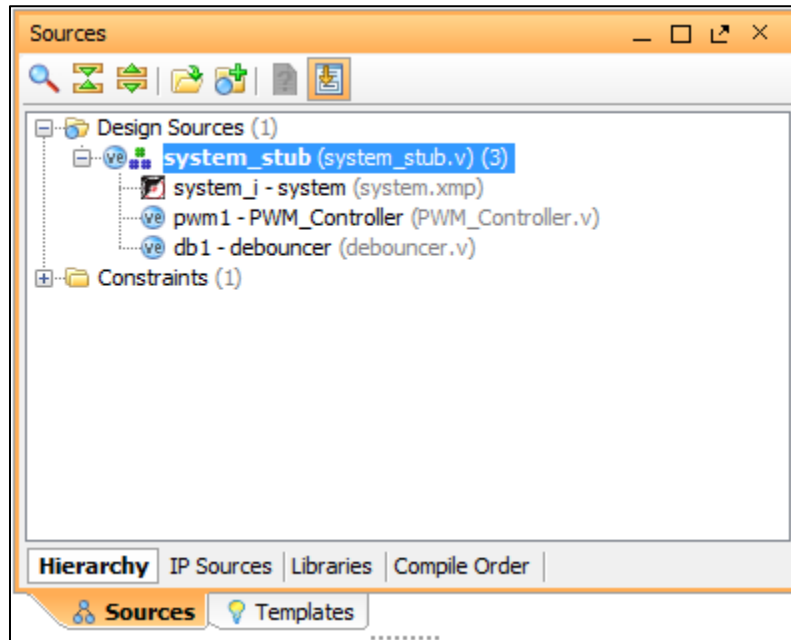

Figure 4 – Selecting the Embedded Subsystem in the PlanAhead Sources Pane
4. Expand the top-level **system_stub.v** entry in the PlanAhead Sources pane as seen in Figure 4.